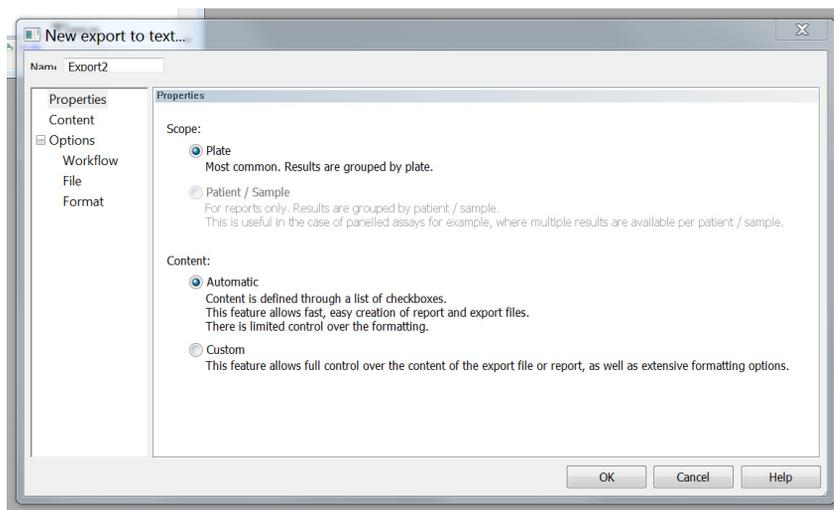

Figure 17. Exporting a Data File in Gen 5 Software, Settings for Properties Tab.
- a Select **Plate** for the **Scope**. See **Figure 17**.
- b Select **Automatic** for the **Content**. See **Figure 17**.